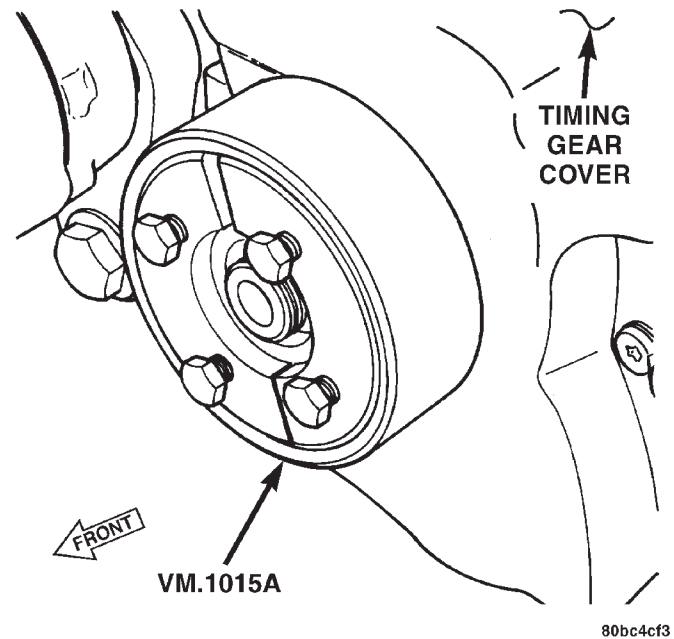

Fig. 75 VM.1015-A
- (1) Install the new seal using special tool VM.1015A (Fig. 75).
- (2) Install the vibration damper. Refer to vibration damper removal and installation procedure in this section.
- (3) Connect the negative battery cable.